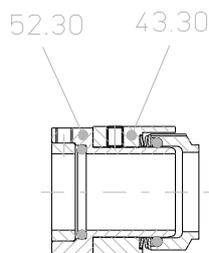

Fig. 4
9. Mark position of mechanical seal. Loosen locknut on shaft sleeve 52.30 and remove with the mechanical seal rotary element (fig.4).